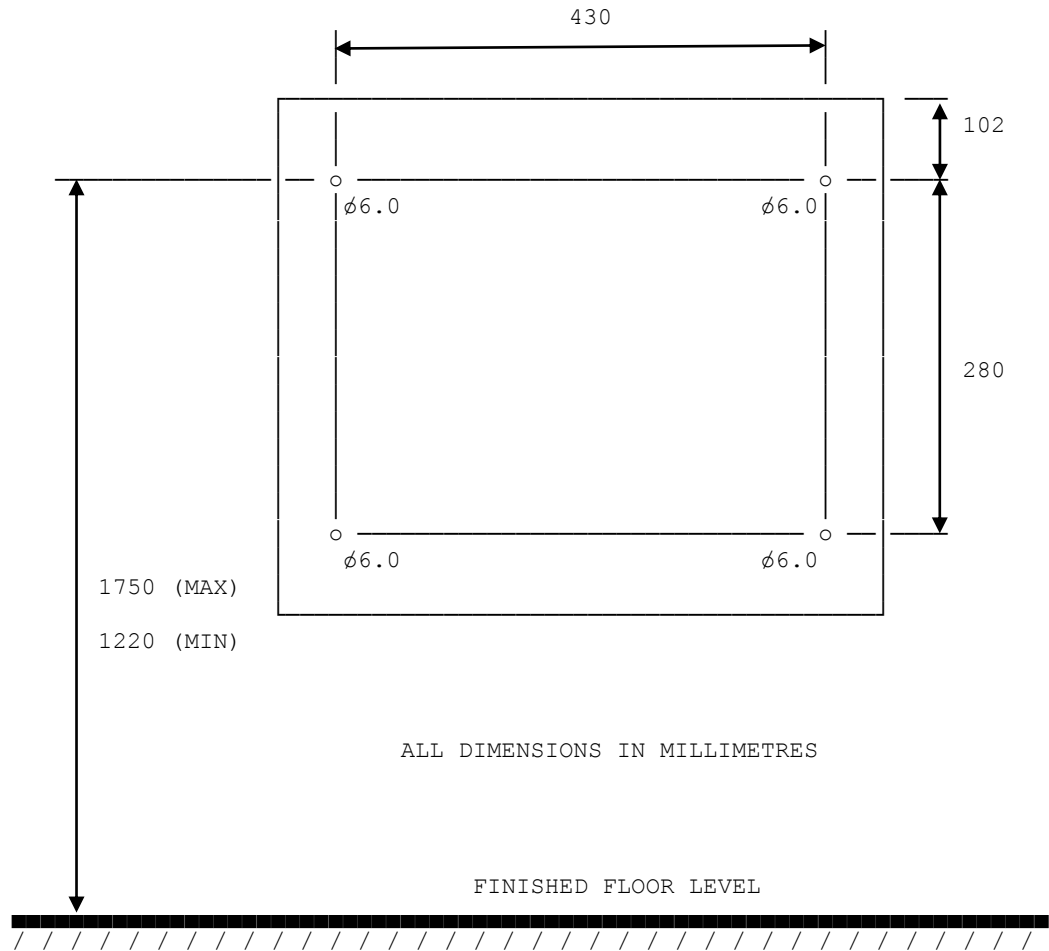

Figure 13. BOWS Cabinet Mounting Details
The BOWS cabinet is typically fixed to a wall with four 6 mm screws or bolts (not included). The drilling details are shown in Figure 13.
4. The display should be at average eye level and must not be higher than 1850 mm or lower than 750 mm above floor level (see Figure 13).